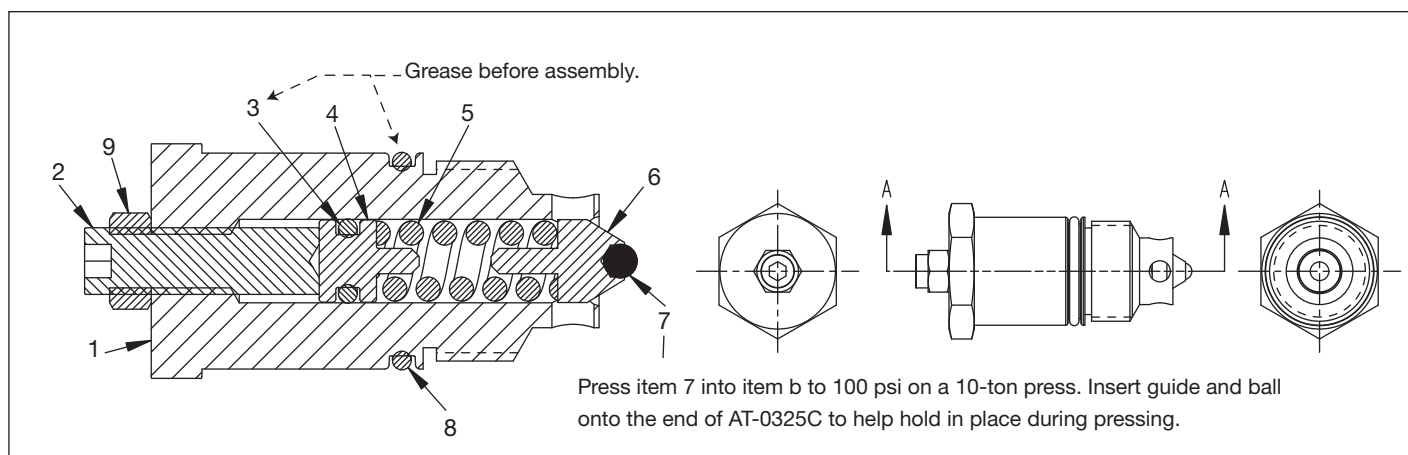
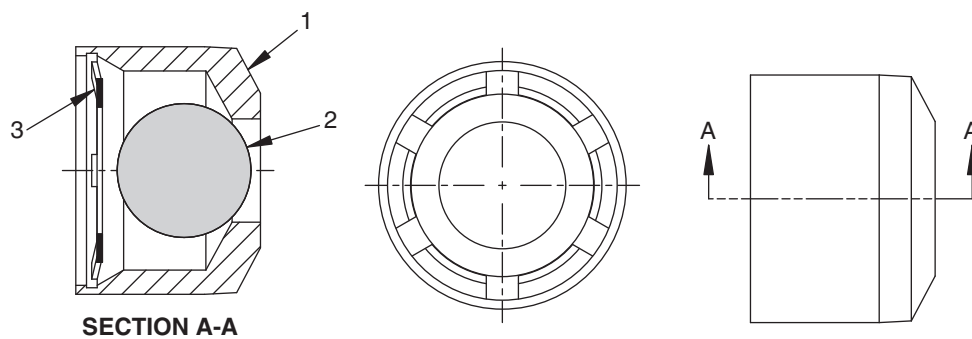

Figure 4, User-Adjustable Relief Valve Assembly, DC5139900SR
Figure 5, In-line Check Valve, DC5140900SR
Repair Parts List for Figure 4
Repair Parts List for Figure 5
1. Inability to obtain any pressure may be the result of damaged connector seals on the pump, or failed relief valve components (items 6, 7, figure 4) a damaged ball and seat in the body (items 1, 2, figure 5), or damaged or worn metal seals and disc (item 16, 18, figure 1C). These problems are usually a symptom of contaminated hydraulic oil. The system should be drained and refilled with fresh Enerpac hydraulic oil.
5. Leakage observed on the external surfaces around the relief valve body (item 1, figure 4) is an indication that the O-ring (item 8) needs to be replaced.
- b. Remove venturi nozzle (item 5) and O-ring (item 4). Inspect O-ring for damage such as nicks or wear and replace if necessary.
- NOTE:** It is not necessary to remove or replace plug (item 3) unless there is leakage of hydraulic oil.
- a. Loosen lock nut (item 9, figure 4) and unscrew the set screw (item 2).
- c. Remove the seat (item 57) from the body.
16. Inspect the O-ring (item 8, figure 4) for damage and replace if necessary.
17. Inspect the ball (item 7) and guide (item 6). Replace if necessary.